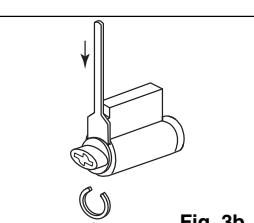

Fig. 3b
- a. Using retainer removal tool, push against retainer ring until it pops off cylinder plug. (Note: make sure to push ring in opposite direction of your body; piece is small and likely to fly loose if pushed too hard). (Fig. 3b)